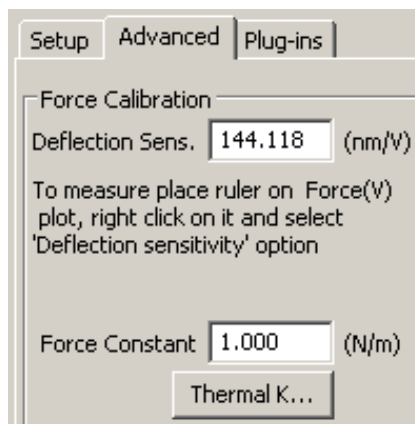

Figure 14-4 Advanced tab in the Spectroscopy window
- 7 Right-click on the ruler after the end points are set and select **Deflection Sensitivity** (Figure 14-4) to update the value in the Advanced tab.